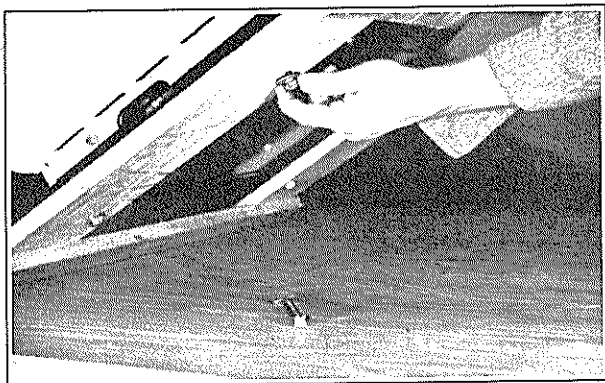

Figure 10
2. Remove the shipping crate base by tilting the unit and removing the four bolts that fasten the crate base to the base of the unit. (Fig. 10)